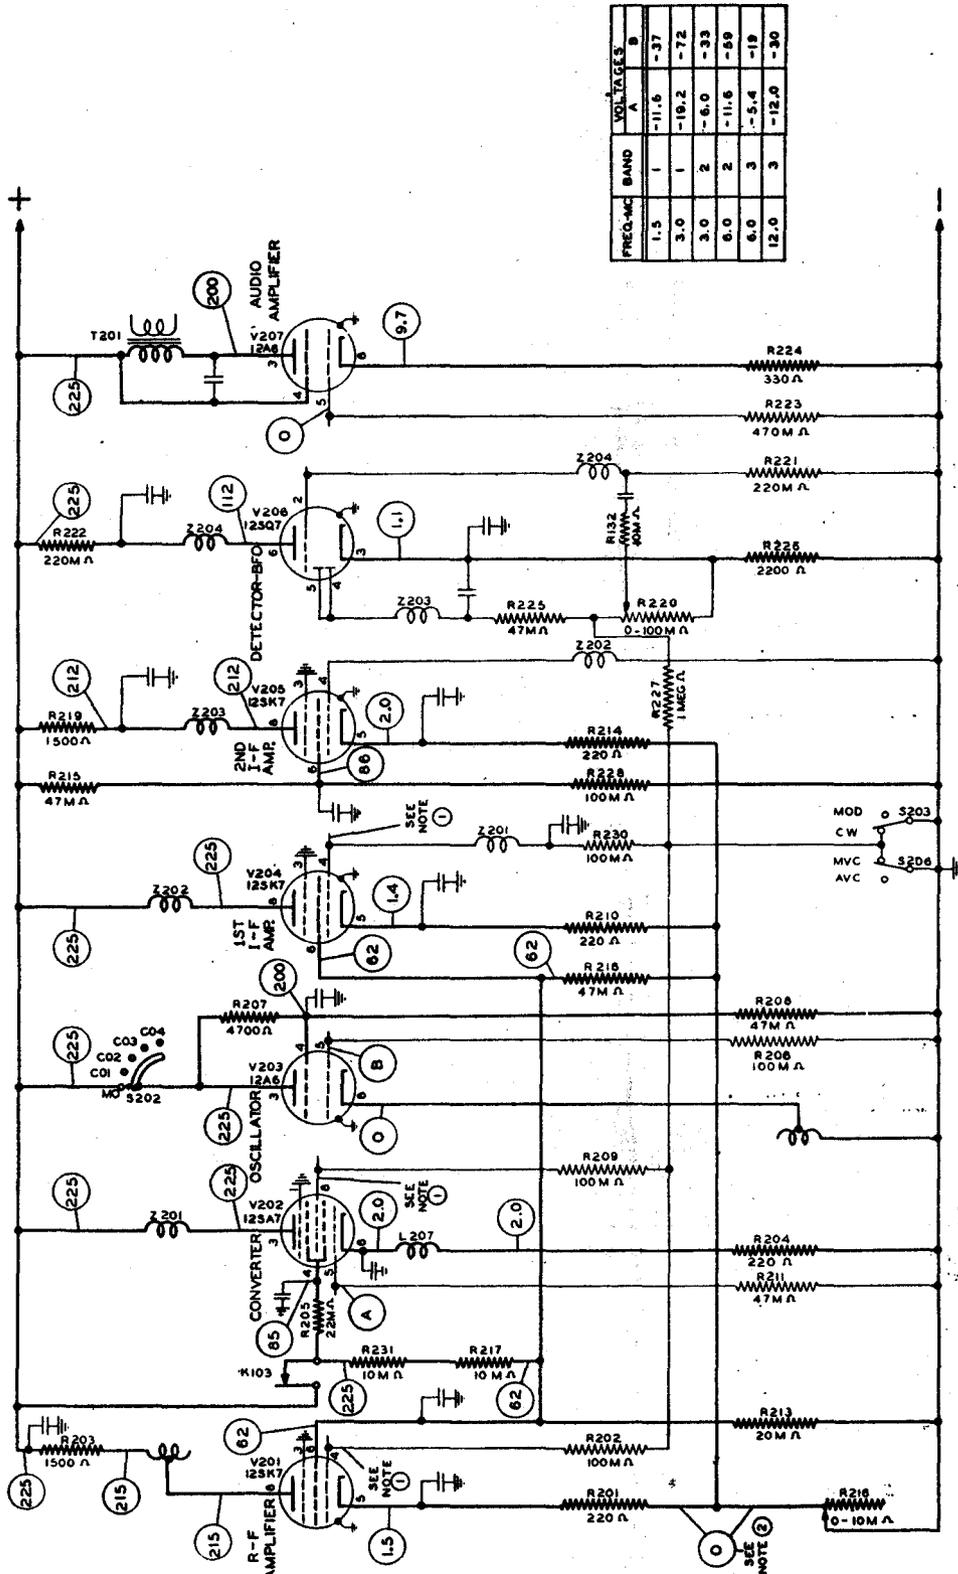

Fig. 22 Type -46159 Radio Receiver Circuit Voltages
5.4.4. Fig. 22 is a simplified schematic of the entire Type -46159 receiver which shows dc voltages appearing at various accessible points. Measurements are from the indicated point to ground using a vacuum tube type of voltmeter such as the Senior Volt-ohmyst. The receiver under test should be adjusted to the conditions indicated in Fig. 22. The receiver will operate well within specifications with a deviation of 10% from any one of the designated voltage values. A deviation of 20% or more from any one of the indicated voltage values may be serious and the components involved should be checked. A 10% deviation of more than one of the indicated voltage values could cause trouble.